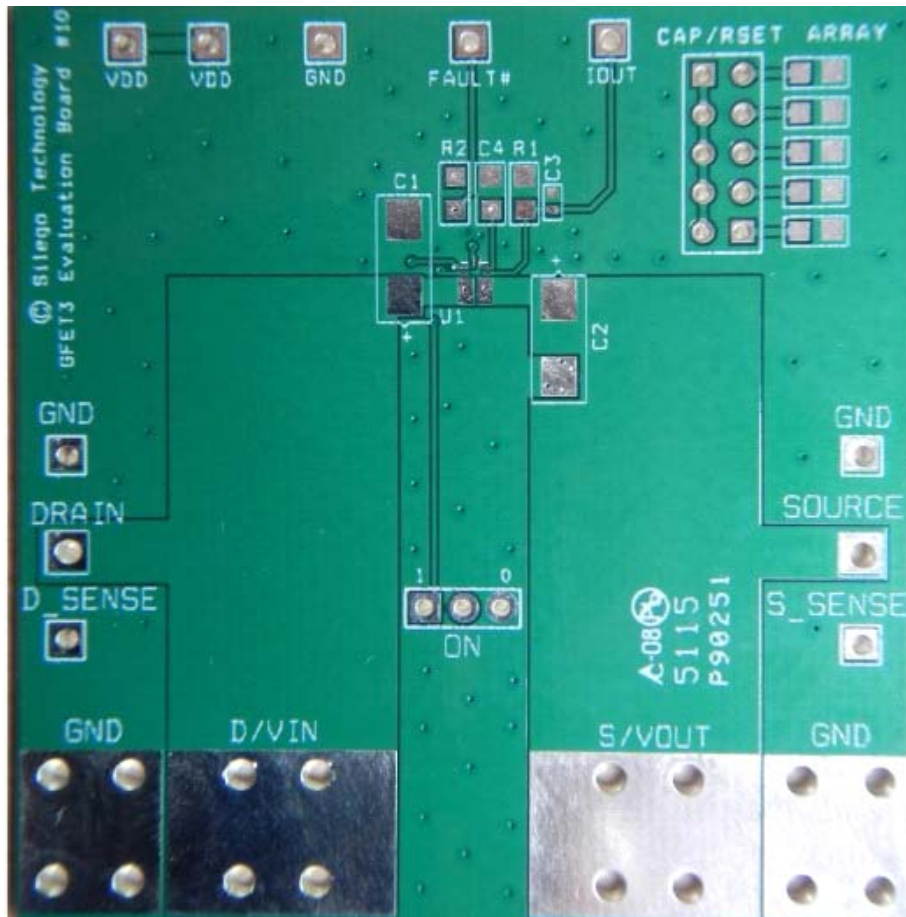

Figure 4. SLG59M1709V Evaluation Board.
2. Since the VIN and VOUT pins dissipate most of the heat generated during high-load current operation, it is highly recommended to make power traces as short, direct, and wide as possible. A good practice is to make power traces with an absolute minimum widths of 15 mils (0.381 mm) per Ampere. A representative layout, shown in Figure 4, illustrates proper techniques for heat to transfer as efficiently as possible out of the device;
A GFET3 Evaluation Board for SLG59M1709V is designed according to the statements above and is illustrated on Figure 4. Please note that evaluation board has D\_Sense and S\_Sense pads. They cannot carry high currents and dedicated only for  $R_{DS(ON)}$  evaluation.